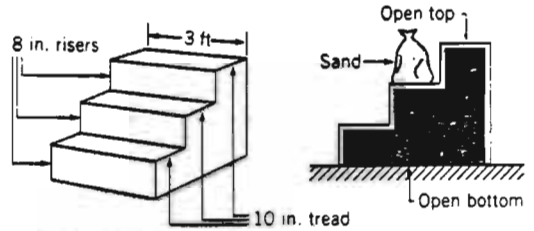

FIGURE P2.51
2.51 Concrete is poured into the forms as shown in Fig. P2.51 to produce a set of steps. Determine the weight of the sandbag needed to keep the bottomless forms from lifting off the ground. The weight of the forms is 85 lb, and the specific weight of the concrete is  $150 \text{ lb/ft}^3$ .